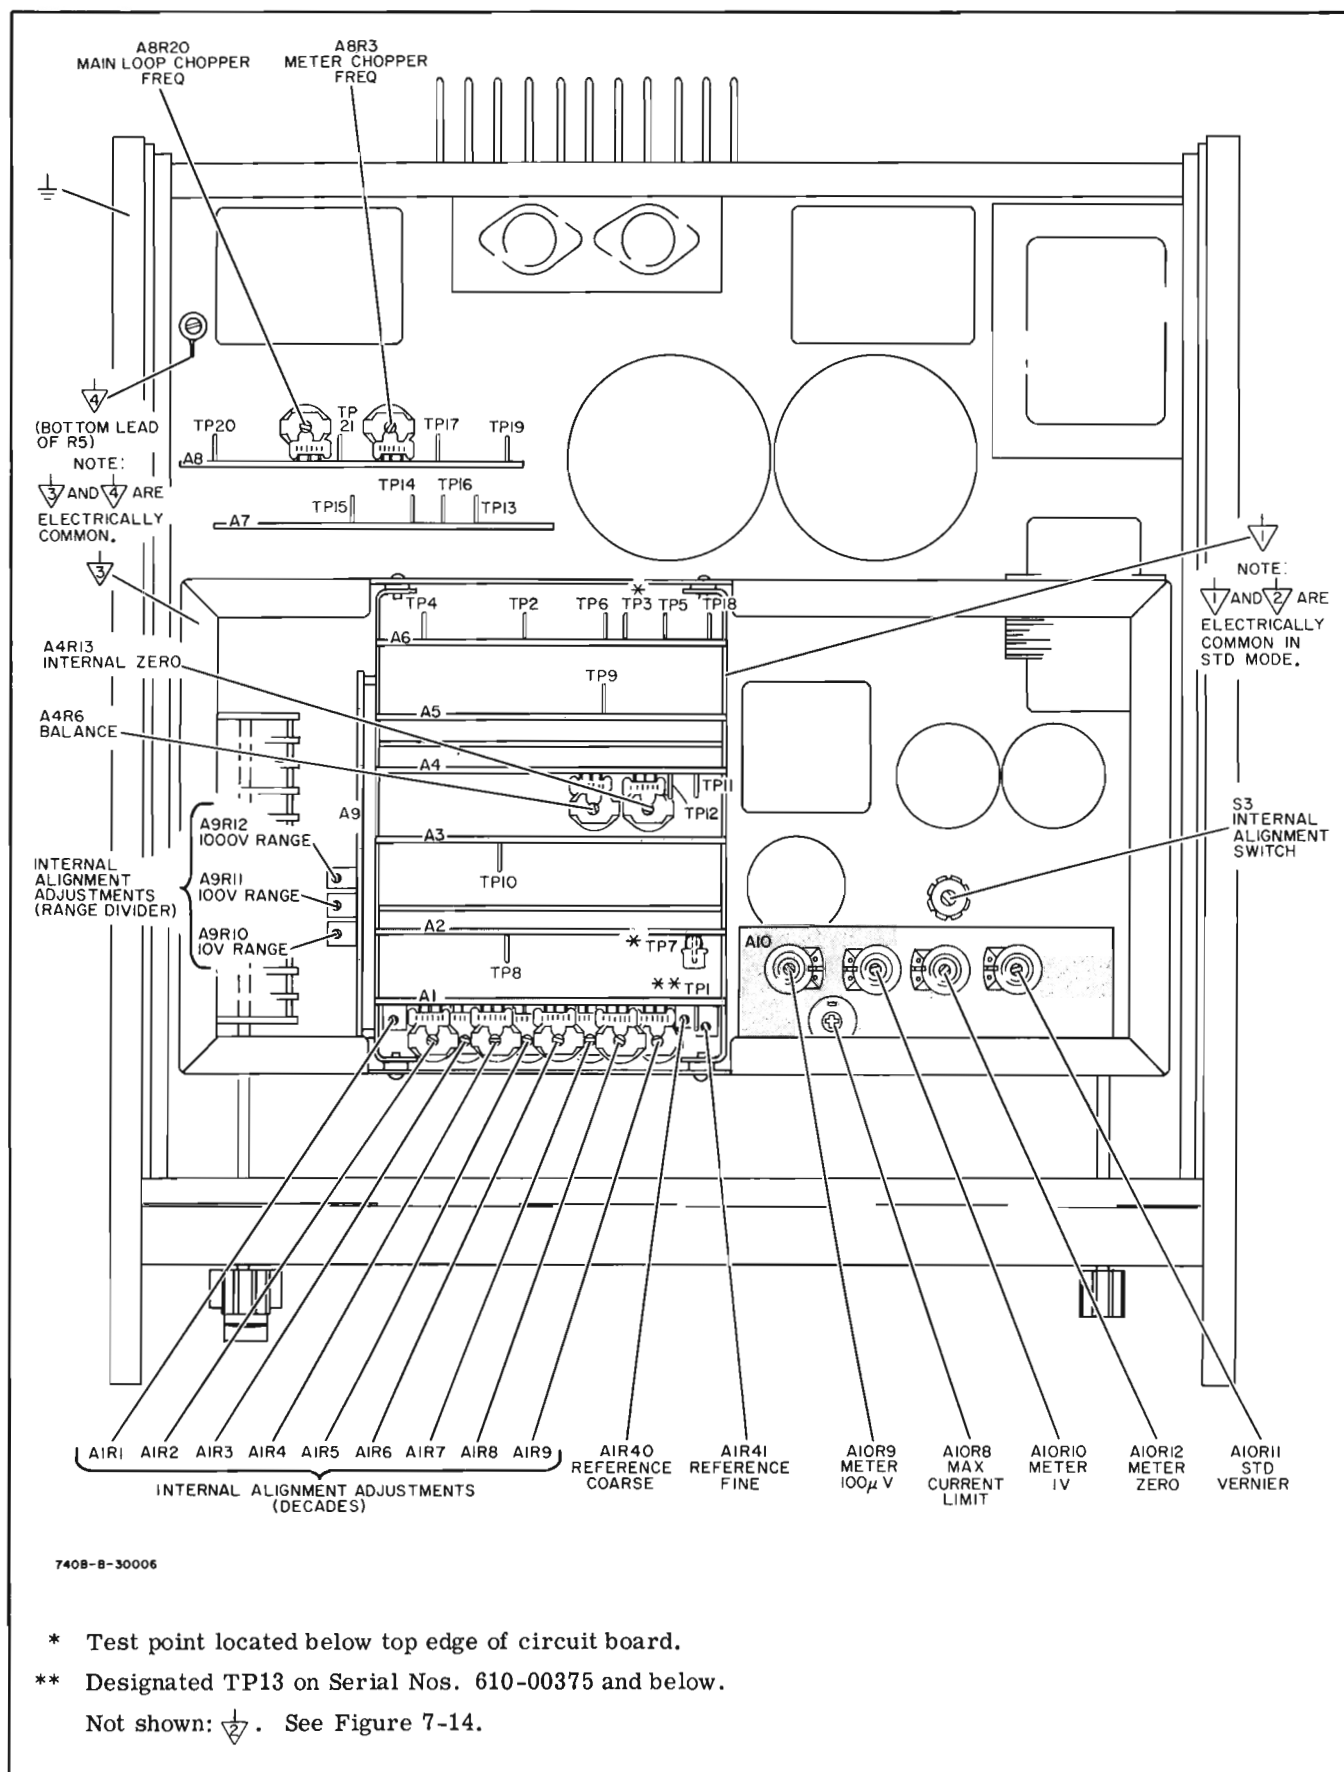

Figure 5-11. Internal Adjustments and Test Points
5-35. The following paragraphs contain a complete adjustment and calibration procedure for the Model 740B. This procedure should be performed every 30 days to maintain in-specification operation. Allow the instrument to warmup for at least one hour before performing the procedure. Be sure to complete all of the adjustments in the order given, as several of the adjustments interact. Figure 5-11 shows the location of the internal adjustments.
- Connect counter input to A8TP21. Connect counter ground clip to ∇ (Figure 5-11).
- Connect an oscilloscope to A8TP21 and ∇ (Figure 5-11).
- Connect counter input to A8TP20. Connect counter ground clip to ∇ (Figure 5-11).
- Connect an oscilloscope to A8TP20 and ∇ (Figure 5-11).
- Connect a dc voltmeter (-hp- Model 419A) to A4TP12 and ∇ (Figure 5-11).